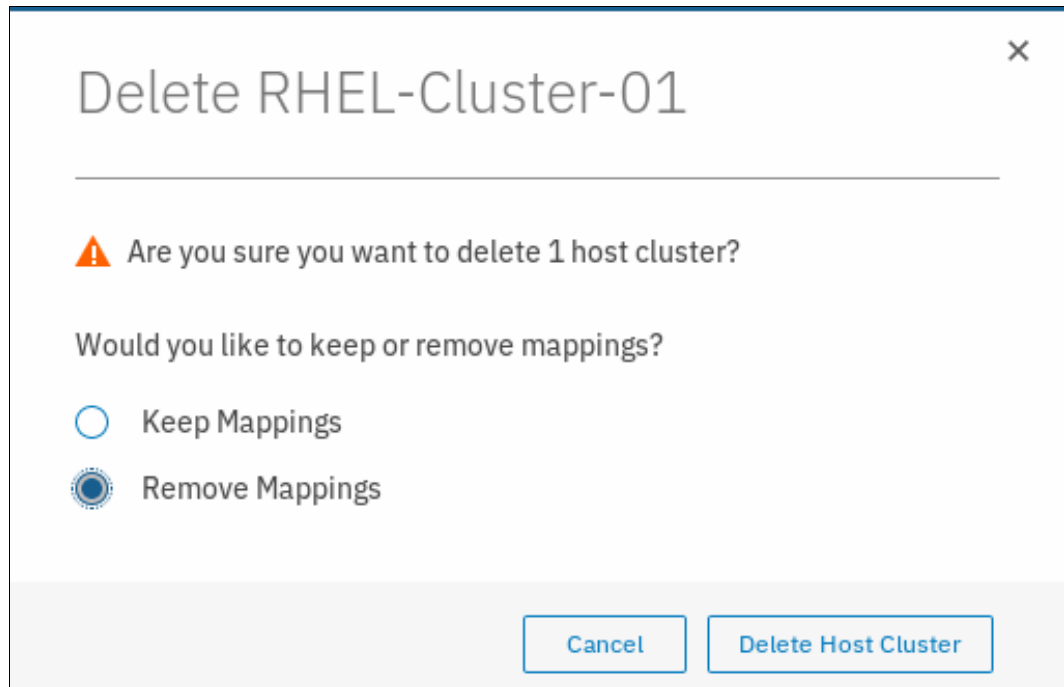

Figure 5-105 Remove mappings after host cluster deletion
4. Select the wanted mappings option. In our example, we chose **Remove Mappings**, as shown in Figure 5-105.